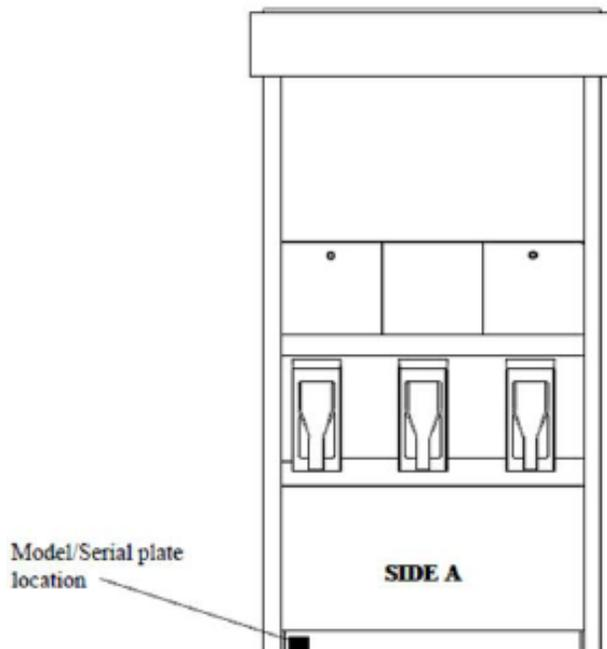

Figure 93
- c. You are looking at SIDE A. See Figure 93.